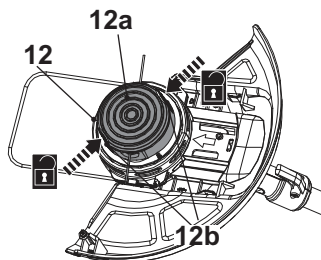

Fig. 24
2. Hold the trimmer head (12) steady with one hand. Press the release latches (12b) on both sides, then lift the cover (12a) and remove it (Fig. 24).